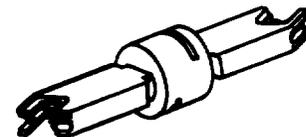

Fig. 3—♦Blades for Use With D Impact Tool♦
2.10 Three blades are currently being introduced with the D impact tool (Fig. 3). Each blade has a solid barrel located in the mid portion of the blade. The barrel is grooved to fit the spring pin lock of the handle.